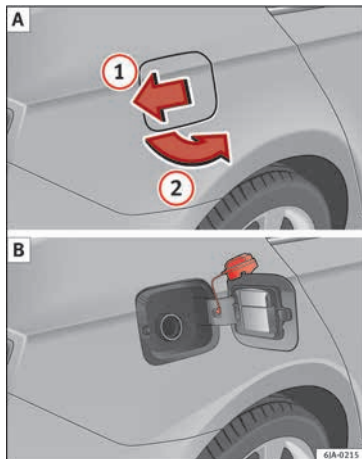

Fig. 203 Vehicle as seen from the rear right: fuel tank flap/fuel tank flap with tank unscrewed cap attached.
The correct type of fuel for your vehicle is indicated on a sticker on the inside of the fuel tank flap, along with the tyre size and pressure » **Fig. 203 B**.
- Press the flap in the direction of the arrow **1** » **Fig. 203**.
- Unscrew the tank cap anti-clockwise and place it on top of the tank flap » **Fig. 203 B**.
»» Fig. 203.
- Unscrew the tank cap anti-clockwise and place it on top of the tank flap »» Fig. 203 **B**.